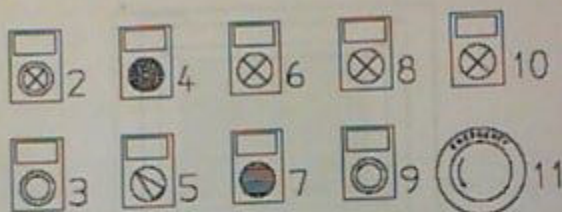

Fig. 4-1 - Button panel
- The ALARM light on button panel, (ref. 8 Fig. 4-1).
- Warning buzzer on button panel, (ref. 4 Fig. 4-1). Buzzer is silenced automatically after ten seconds.